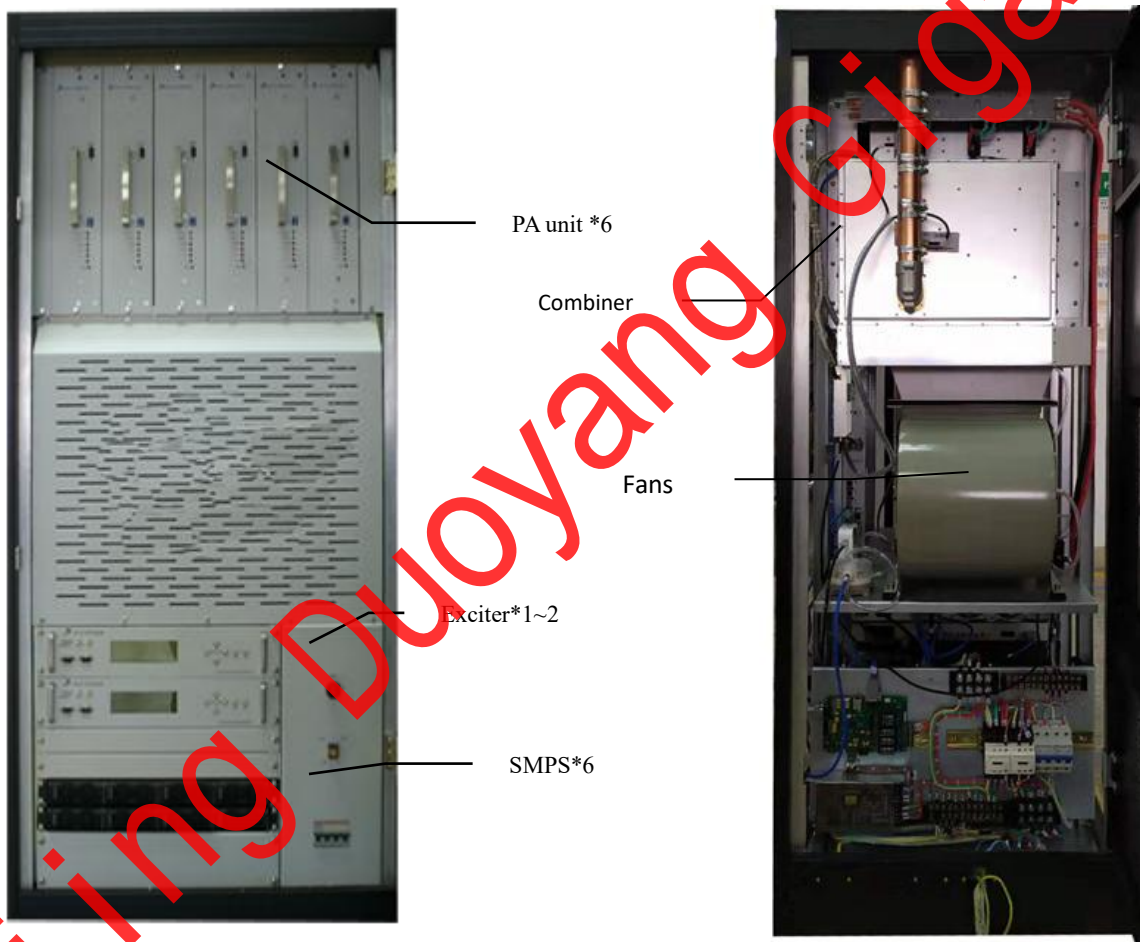

Fig.1 Front and rear view of the cabinet
3kw digital TV transmitter is mainly consisting of seven parts, i.e., exciter, amplification & control unit (ACU), power amplifier (PA) unit, central control unit (CCU), power supply control unit (PSCU), switching mode power supply (SMPS), passive components (divider, combiner, filter, directional coupler, etc.) and cooling system. Its appearance and internal structure are shown in Figure 1.